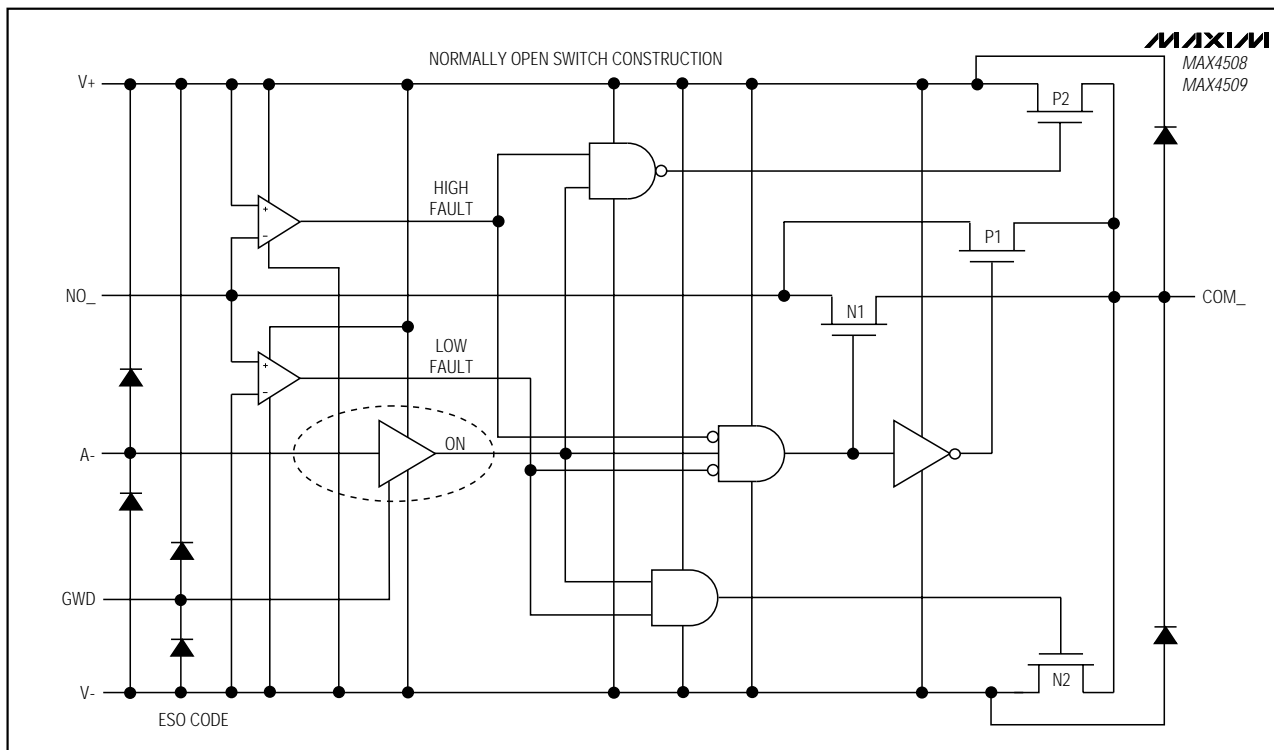

Figure 1. Functional Diagram
Figure 1 shows the internal construction, with the analog signal paths shown in bold. A single normally open (NO) switch is shown. The analog switch is formed by the parallel combination of N-channel FET N1 and P-channel FET P1 which are driven on and off simultane-
Two comparators continuously compare the voltage on the NO- pin with V+ and V- supply voltages. When the signal on NO- is between V+ and V-, the multiplexer behaves normally, with FETs N1 and P1 turning on and off in response to A- signals (Figure 1). The parallel combination of N1 and P1 forms a low-value resistor between NO- and COM- so that signals pass equally well in either direction.
When the signal on NO- exceeds V+ by about 150mV, the positive fault comparator output goes high, turning off FETs N1 and P1 (Figure 1). This makes the NO- pin high impedance, regardless of the switch state. If the switch state is "off," all FETs turn off, and both NO- and COM- are high impedance. If the switch state is "on," FET P2 turns on, clamping COM- to V+.
When the signal on NO- goes about 150mV below V-, the negative fault comparator output goes high, turning off FETs N1 and P1 (Figure 1). This makes the NO- pin high impedance, regardless of the switch state. If the switch state is "off," all FETs turn off, and both NO- and COM- are high impedance. If the switch state is "on," FET N2 turns on, clamping COM- to V-.
FETs N2 and P2 can source about ±10mA from V+ or V- to the COM- pin in the fault condition (Figure 1). Ensure that if the COM- pin is connected to a low-impedance load, the absolute maximum current rating of 30mA is never exceeded, either in normal or fault conditions.